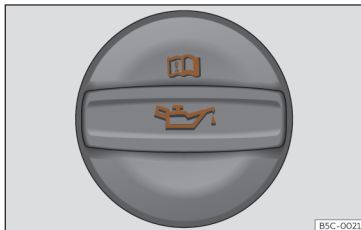

Fig. 226 Oil filler cap cover in the engine compartment.
- Locate the engine oil filler cap. It can be recognized by the symbol on the cover >>> **Fig. 226**.
- Unscrew cap from the oil filler mouth >>> **Fig. 226**.